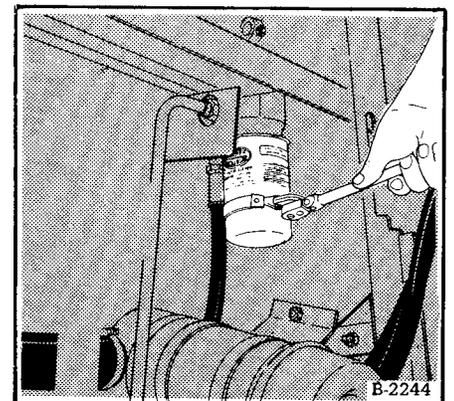

Fig. 1-32 Remove Hydraulic Oil Filter
(1) Remove the element (Fig. 1-32). (Use an open reservoir to catch leaking fluid.)
(2) Clean the element contact area of the filter housing.
(3) Put oil on the rubber gasket on the new filter element.
(4) Install the element. Tighten it until it is hand tight only.
(5) Start the loader engine and check for leaks.